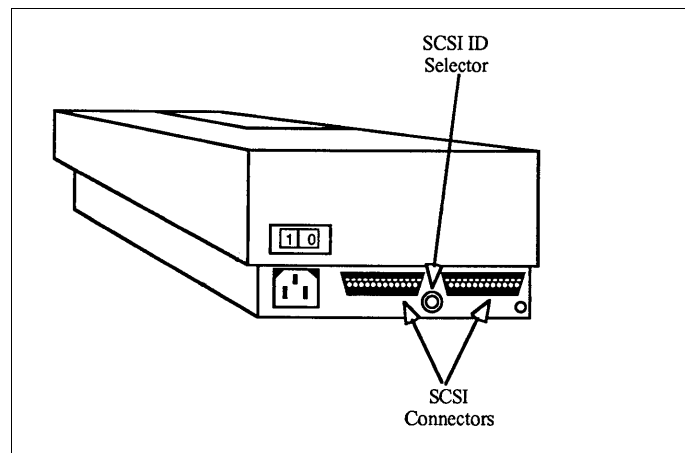

Figure 2-28. Color Scanner SCSI ID Selector
2. Verify that the SCSI ID selector (Figure 2-28) is set to 4. Change it if necessary.